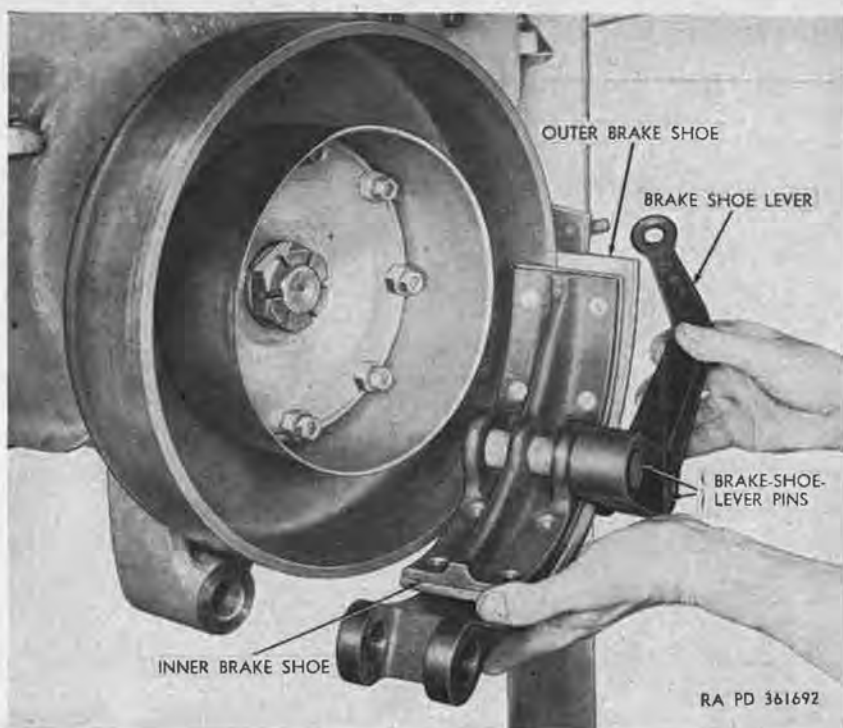

Figure 247. Removing hand brake shoe and lever assembly.
- (5) Spread inner and outer shoes (fig. 247), and remove shoe and lever assembly from brake drum.
- (6) Remove "C" washer from front end of two brake-shoe-lever pins (fig. 247), and remove inner and outer shoes from pins.
- (1) Position inner and outer brake shoes (fig. 247) on brake-shoe-lever pins, and install C washer at front end of both pins.